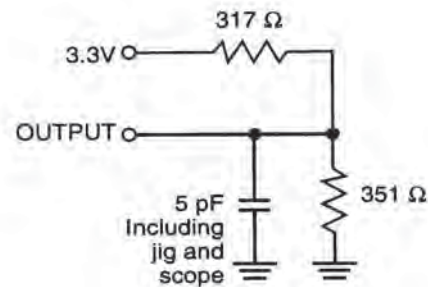

FIGURE 2
2. Tested with the load in Figure 2. Transition is measured ± 200 mV from steady-state voltage. Not 100% tested.